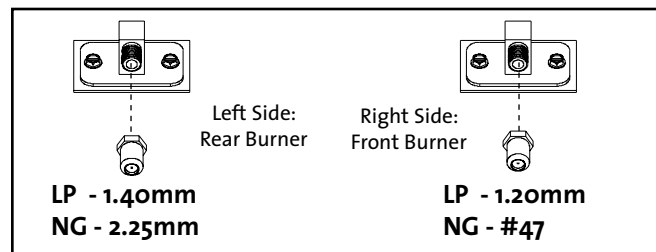

Figure 30. Change the burner injector orifices.
- 8. Change the Burner Injectors.** See fig. 30. Using a 1/2" open end wrench or deep-well socket remove both burner injectors from the brass elbow housings and replace with the appropriate injectors supplied in the kit. **Injectors are labelled: "L" = Left / "R" = Right.**